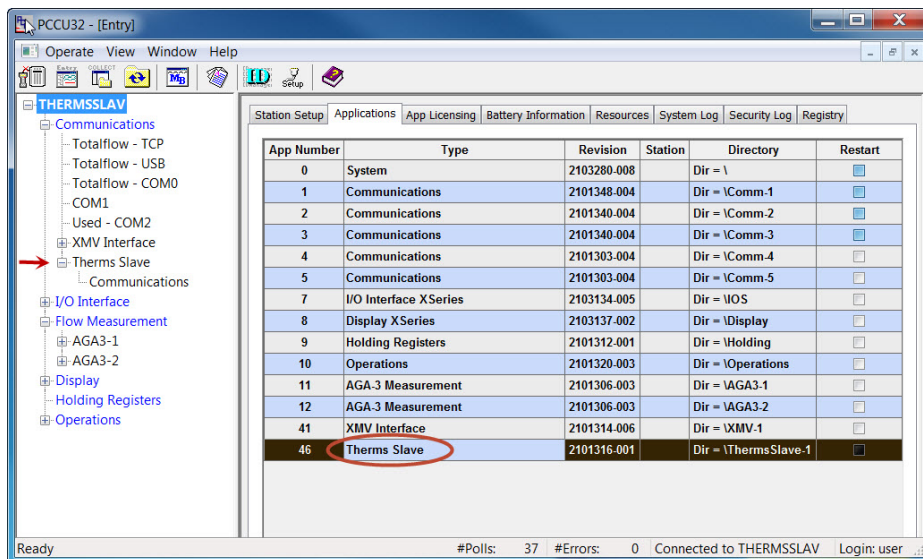

Figure 35 Verify Therms Slave application is listed
- 6) Click re-read to verify the application has been added and it now appears in the application list in the correct application number (see Figure 35). Please note that the Therms Slave application is now available under the “Communication” tree view item.